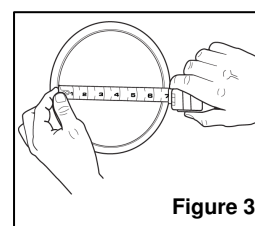

Figure 3
2. Select retention clip position (Figure 3).